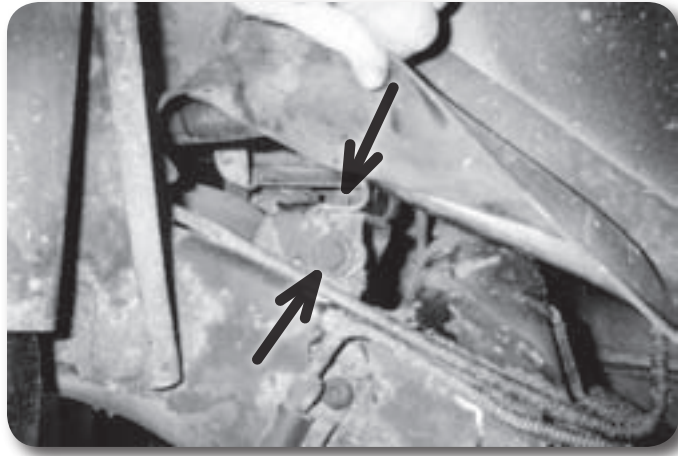

Figure 5
10. Remove the two bolts mounting the steering shaft carrier bearing to the driver's side frame rail (Figure 5).